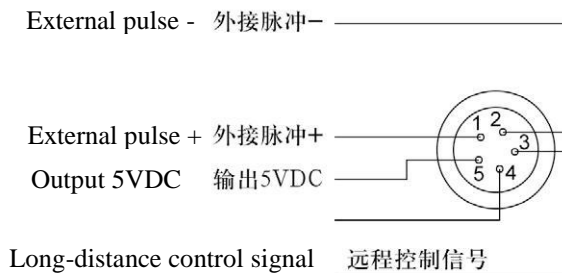

图 5 Fig. 5
- 如果产生脉冲信号的传感器的电源为5VDC，计量泵可为其提供电源。(如图5)；
If the power supply of sensor generating pulse signal is 5VDC, the metering pump can provide power supply for it (as shown in Fig.5)